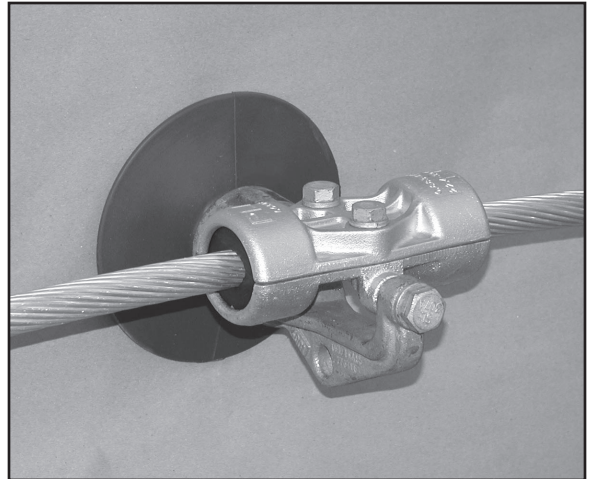

FIGURE 6 - COMPLETED INSTALLATION OF CUSHION-GRIP SUPPORT
2.05 Completed application of the CUSHION-GRIP Support. (Figure 6)